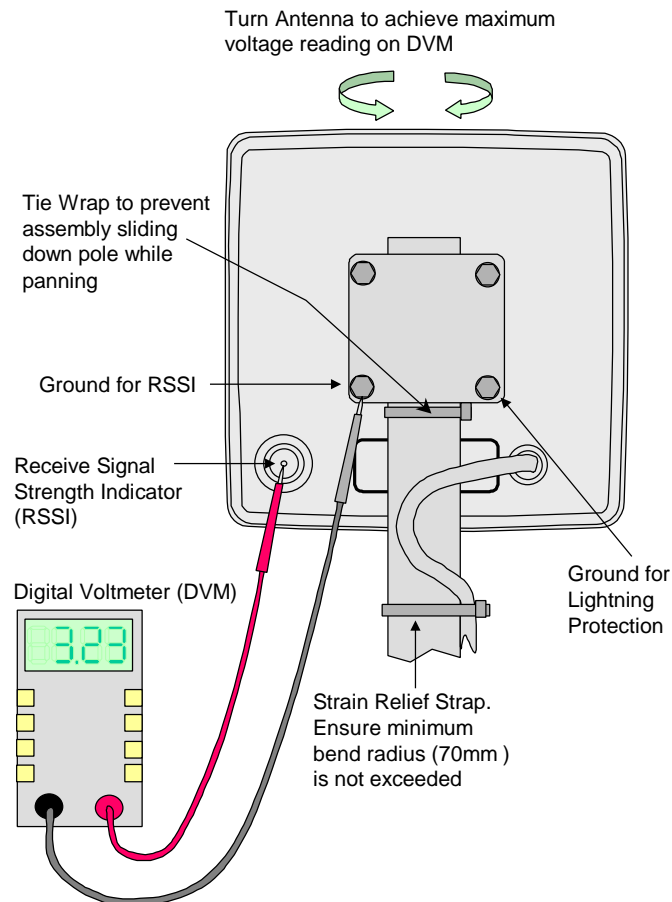

Figure 65. Panning Pole Mount Antenna
4. Using the DVM, measure the DC voltage between Ground and Receive Signal Strength Indicator (RSSI) Monitoring on the Antenna (see Figure 65). The voltage measured is a relative indication of the received signal strength; The lower the voltage the weaker the RX signal, and vice versa. A reading of 1.4volts or greater indicates a viable link.